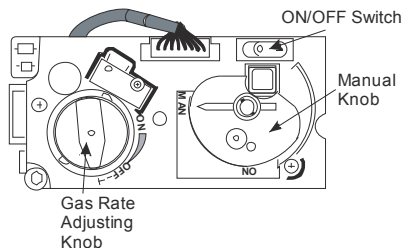

Figure 17
2. Turn the Manual knob clockwise to **MAN** position (see **Figure 17**).